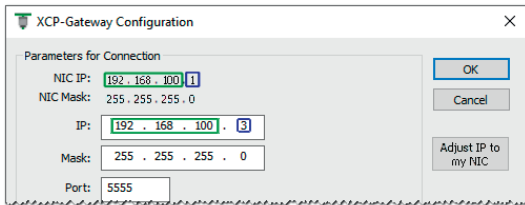

Fig. 6-23: **Adjust IP to my NIC** command
- ▶ If you use PC and network adapter card for both configuration and measurements, the IP addresses of the network adapter and the XCP-Gateway must be in the same address range (Fig. 6-23, green markers), but they must not be identical (Fig. 6-23, blue markers). If necessary, the IP address can be adjusted clicking the button **Adjust IP to my NIC**. The IP address is automatically adjusted to the IP address of the network adapter. A manual modification of the **IP address** entry is not required.